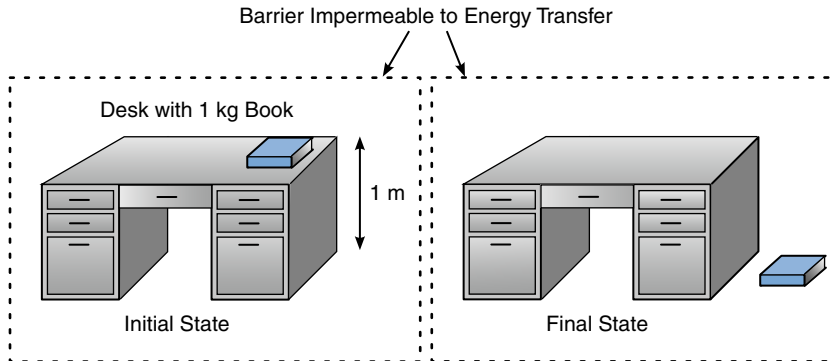

FIGURE 4.4
As a simple example, consider a 1.0 kg book on your desk, and that the desk is 1.0 m high (see Figure 4.4). The book has $GPE = mgh = 1.0 \text{ [kg]} \times 9.81 \text{ [m/s}^2] \times 1.0 \text{ [m]} = 9.8 \text{ [kg} \cdot \text{m/s}^2] = 9.8 \text{ J}$ with respect to the floor. Suppose that book now falls to the floor, thus losing all of its GPE. Where did the GPE go? Have we violated conservation of energy?
The fact is that the GPE is still in the room but not in its original form. What physically happens is: (1) the GPE of the falling book is converted to TKE as it falls; (2) when the book hit the floor, it sets up some sound waves in the floor and in the surrounding air; and finally (3) all the energy in (1) and (2) end up heating the room and its contents by exactly 9.8 J of energy (ultimately all forms of energy degrade to heat see Fig. 4.4).
- Suppose the 1.0 kg book in Figure 4.4 fell from a height of 2.5 m. What would be the final heat energy added to the classroom?